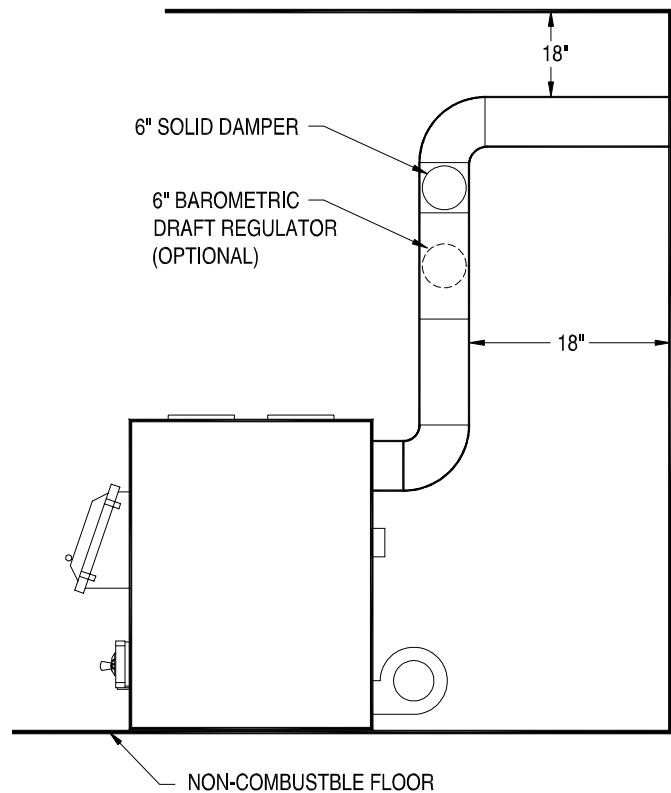

Figure 3
3. You must have at least 18 inches of clearance between any horizontal piping and the ceiling. (See Fig. 3)